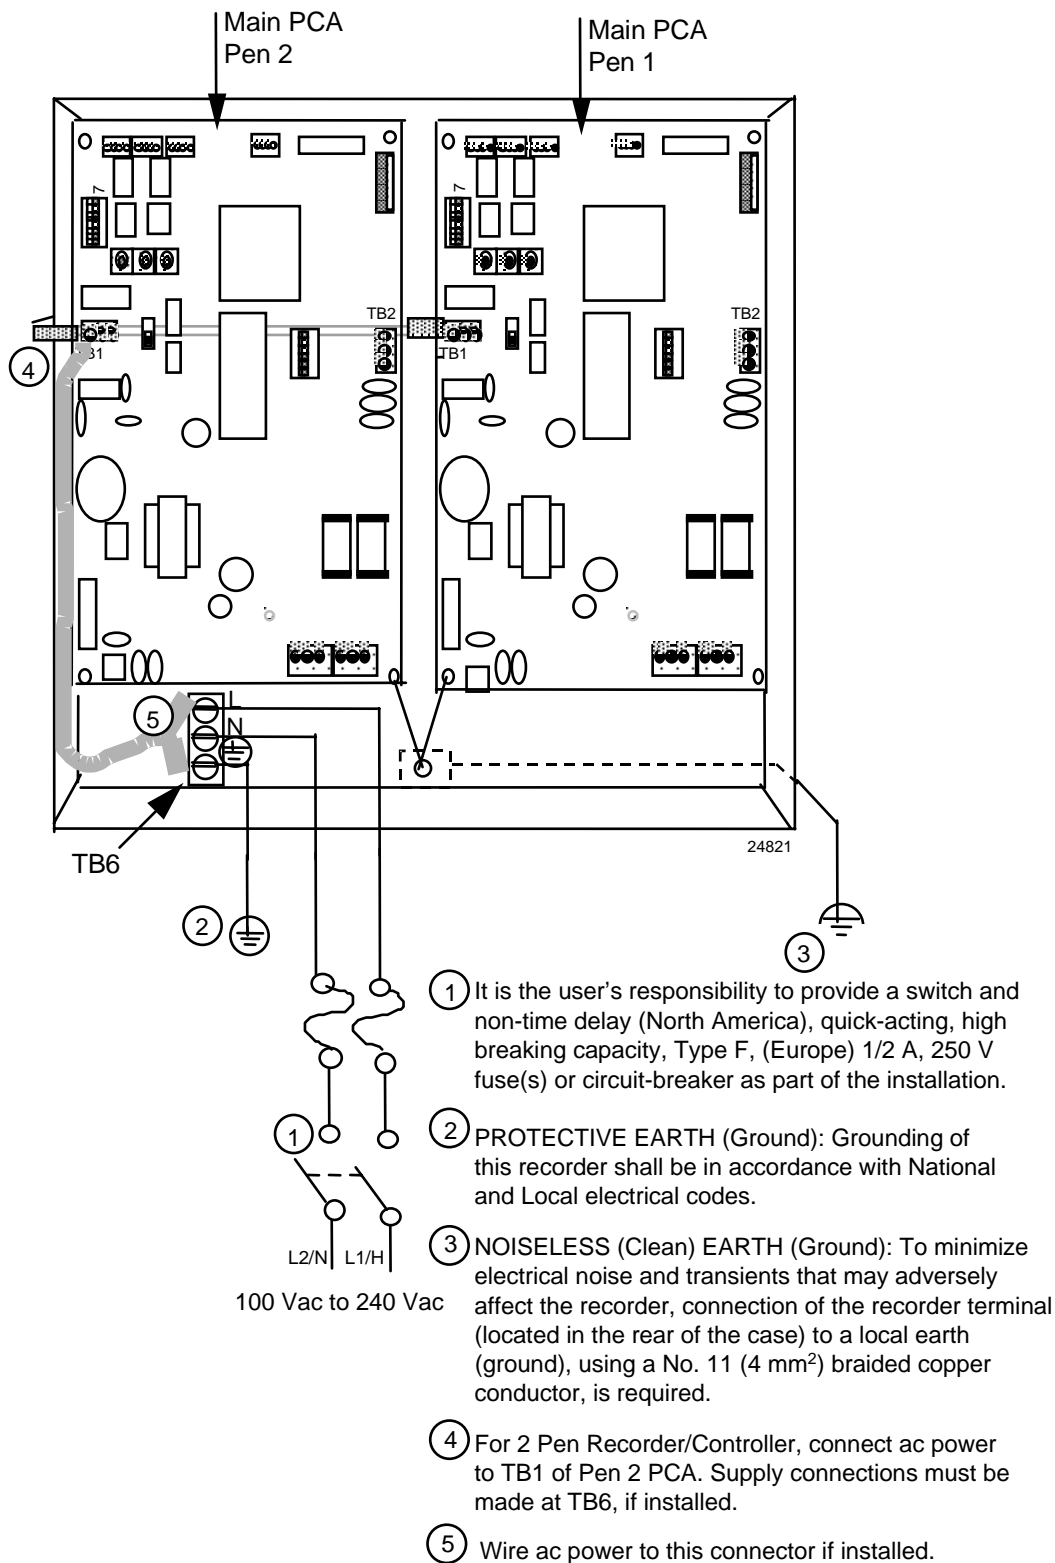
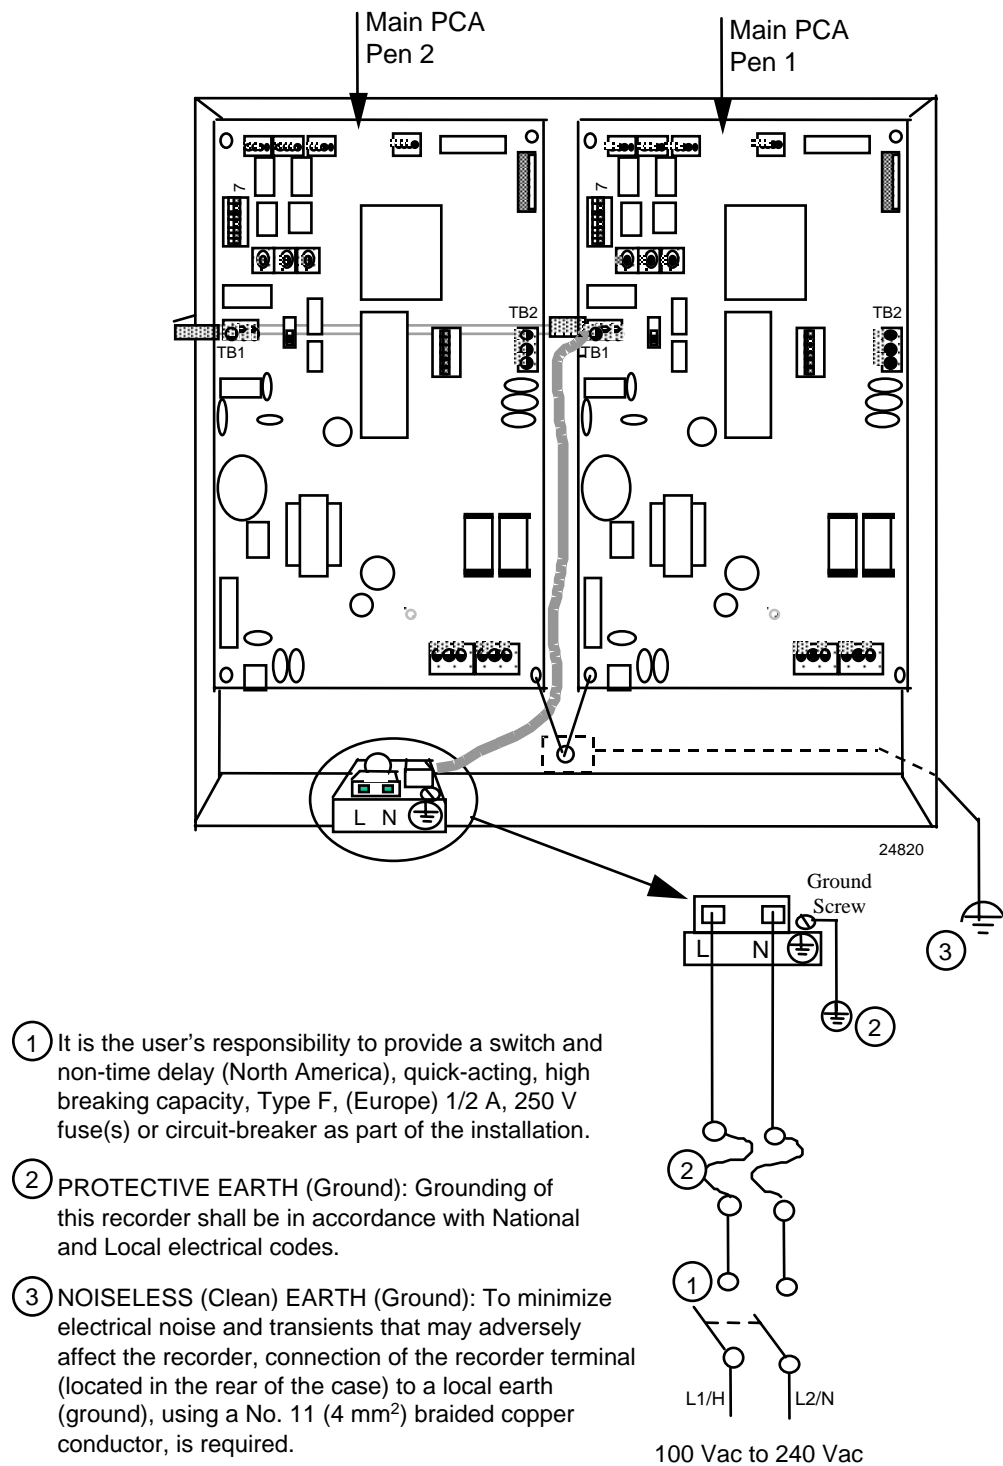

Figure 2-9 Power Wiring – Models Without CE Mark
Figure 2-10 Power Wiring – Models With CE Mark
| Power Wiring - Models Without CE Mark | Figure 2-9  |
| Power Wiring - Models With CE Mark    | Figure 2-10 |
- Figure 2-9 for models without CE Mark.
- Figure 2-10 for models with CE Mark.
| 2  | Locate the power terminal block for your recorder model. <ul style="list-style-type: none"> <li>• See Figure 2-9 for models without CE Mark.</li> <li>• See Figure 2-10 for models with CE Mark.</li> </ul> Note that the power connection between the boards on two-pen models is made at the factory. On CE Mark and UL models the connection between the terminal block at the bottom of the case and the PCA is also made at the factory. In all models, you only have to connect power to a single terminal block. |
| ATTENTION: To avoid damaging the recorder, be sure that you install the power wires into the correct screw terminals as shown Figure 2-9 and Figure 2-10. |  |
| ATTENTION To avoid damaging the recorder, be sure that you install the power wires into the correct screw terminals as shown in Figure 2-9 and Figure 2-10. |  |
| ATTENTION To avoid damaging the recorder, be sure that you install the power wires into the correct screw terminals as shown Figure 2-9 and Figure 2-10. |  |